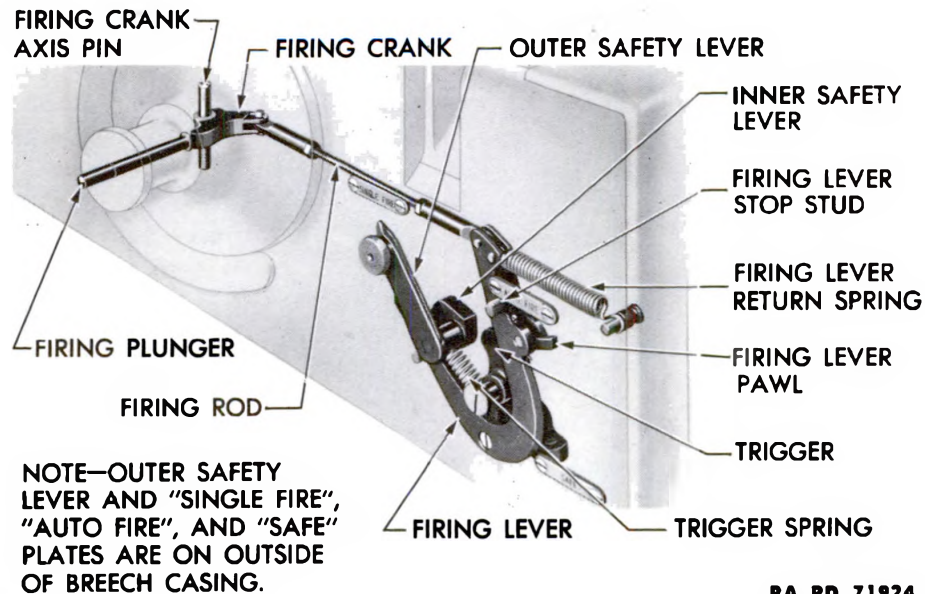

Figure 24 – Breech Casing Firing Mechanism – Phantom View
(1) The breech casing firing mechanism (fig. 24) consists of the parts of the firing mechanism which are mounted on the left wall and floor of the breech casing (fig. 24). It includes the safety lever and its mechanism. The breech casing firing mechanism converts the movement of the firing plunger in the left gun trunnion into movement which releases the rammer and fires the gun. The firing plunger is actuated by depressing either of the firing pedals on the carriage.
(2) The firing lever (fig. 24) is roughly U-shaped. It is pivoted on a bracket fastened to the floor of the breech casing. Its longer upper arm is pulled forward by the firing rod and crank when the firing plunger is pressed inwardly by the action of depressing either of the firing pedals. It is returned to its normal position by the firing lever return spring.
(3) The firing lever pawl (fig. 24) is pivoted between lugs on the rear of the longer arm of the firing lever. The trigger is located in the “U” of the firing lever and pivoted on a pin in the left wall of the breech casing. When the firing lever is pulled forward, the firing lever pawl contacts the trigger and rotates the trigger on its axis pin. The trigger rotates the rammer control spindle trigger arm of the automatic loader to release the rammer shoe and fire the gun.
**40-MM AUTOMATIC GUN M1 (AA) AND 40-MM ANTI-AIRCRAFT
(4) The firing lever pawl is tripped by the firing lever stop stud to release the trigger and produce “single fire” action. The rotation of the trigger is controlled by the position of the inner safety lever.
(5) The outer safety lever (fig. 24) is mounted toward the rear on the outer left side of the breech casing. Its head or handle has a spring-loaded plunger which permits it to be locked in holes in either of three positions. Movement of the lever rotates the cam-faced inner safety lever, the surfaces of which control the action of the trigger. In the rearmost or “SAFE” position of the outer safety lever, the gun is prevented from being fired. The central or “AUTO FIRE” position of the lever permits automatic firing. The foremost or “SINGLE FIRE” position of the lever allows single rounds to be fired.